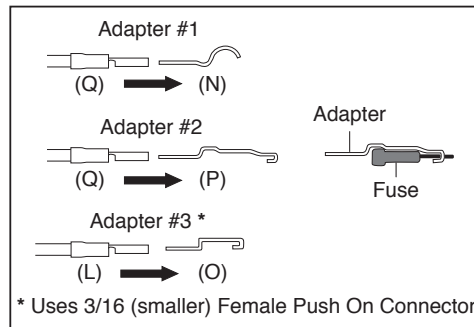

fig. 15
- c. Connection to the fuse terminal will depend on what type of fuse your vehicle uses. If your vehicle uses the barrel type fuse, use adapter #1. If you have the standard spade type fuses, use adapter #2. Many late model vehicles use a smaller spade type fuse which requires adapter #3 (fig. 15). If you use adapter #1 or #2 you will need to crimp on a 1/4” (14-16GA) female connector supplied in kit. If you use adapter #3 you will need to crimp on 3/16” (14-16GA) female connector supplied in kit.